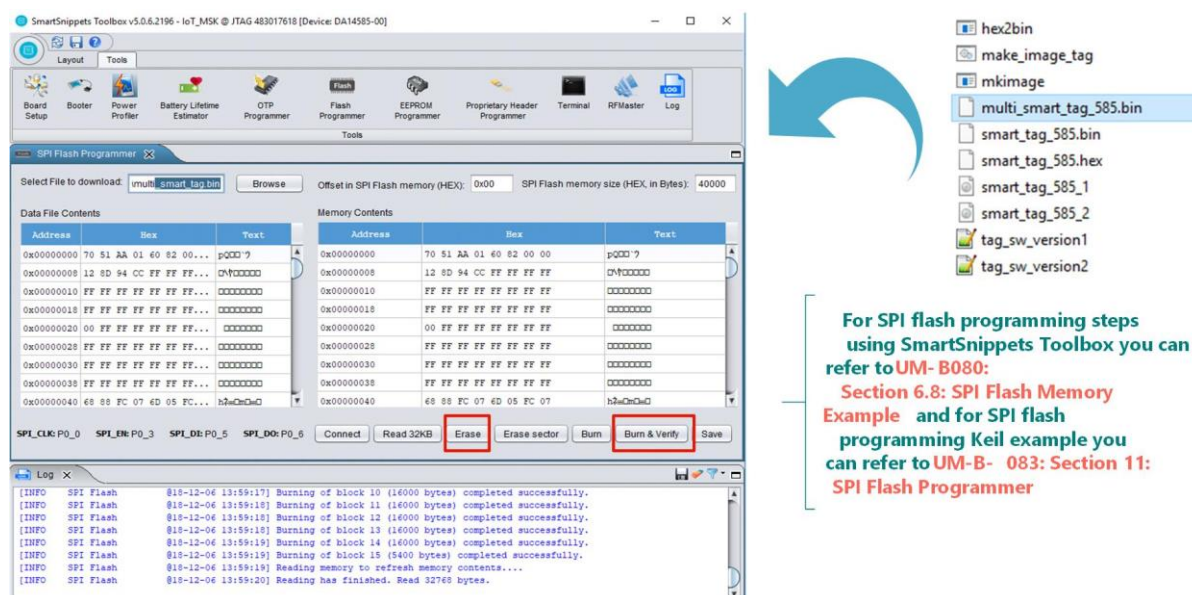

Figure 20: Flash Programming with SmartSnippets Studio
- 1- First you run the `make_image_tag.bat` script, you need to copy two files, in the same location as the mkimages scripts, as shown in **Figure 20**.